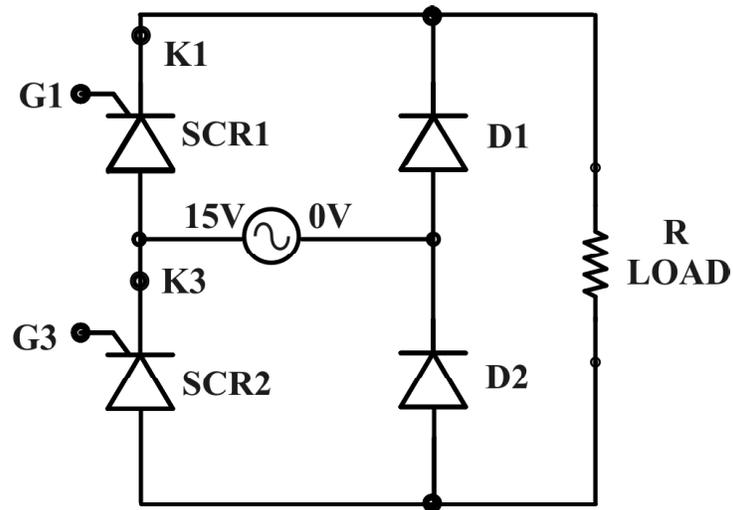

Figure 10
The circuit diagram of basic half controlled bridge rectifier (asymmetrical configuration) is shown below in the figure 10
5. Connect the circuit of half controlled bridge rectifier (asymmetrical configuration) as shown in figure 10 using 2 mm patch cords.
8. Vary the firing control Potentiometer and set on  $30^\circ$ ,  $60^\circ$ ,  $90^\circ$ ,  $120^\circ$  and  $150^\circ$  firing angles using equation (11).